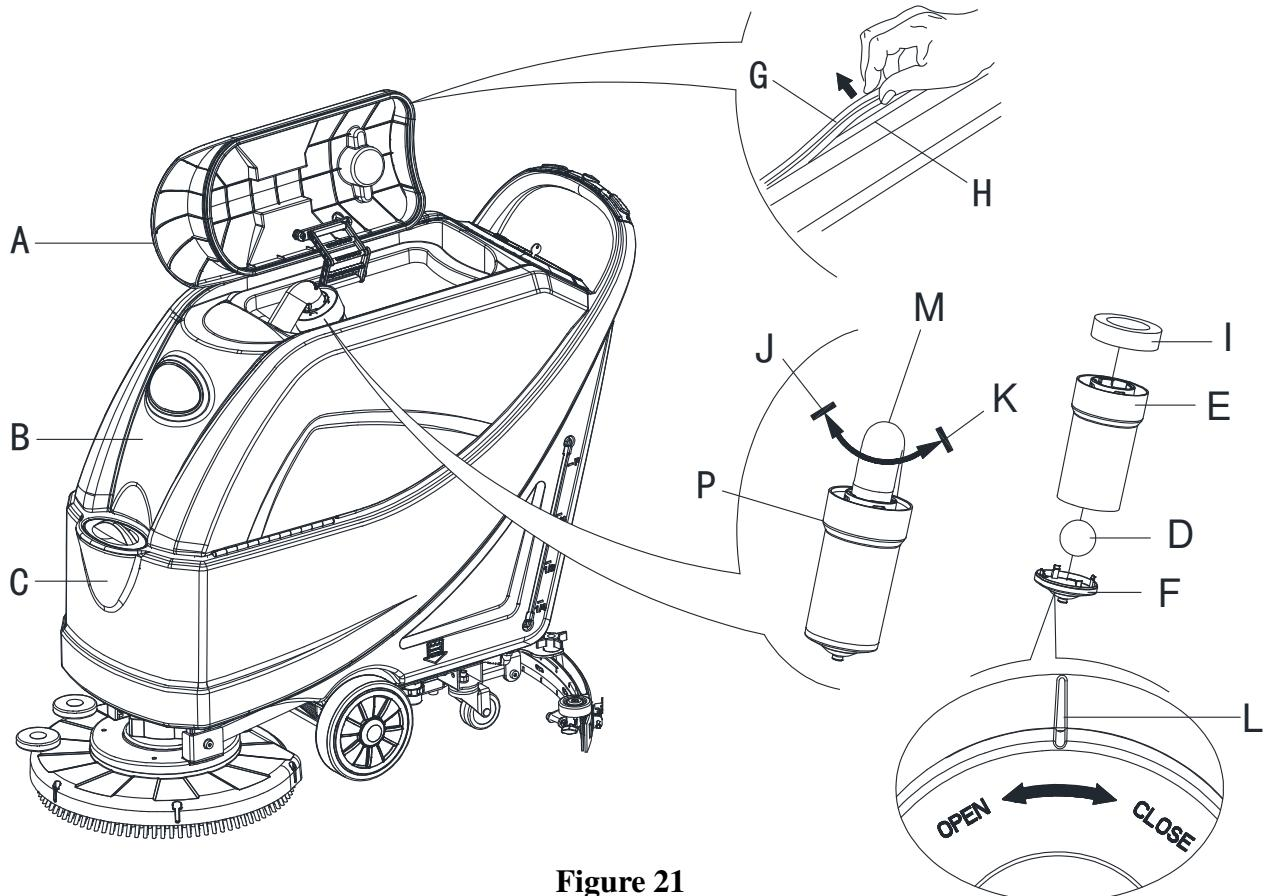

Figure 21
2. Ensure that the machine is off and the ignition key (54) has been removed.
3. Turn the recovery tank lid (A, Figure21) 90 degree position where it can be took off from the tank, and then take down the float ball filter (P) from the tank.
5. If necessary, follow the symbols “OPEN” and “CLOSE” as shown in (Figure21) to open the bottom cover (F) of float ball filter and then clean the float ball (D), filter support frame (E) and filter sponge (I). After cleaning, fix the float ball (D) into the filter support frame (E) and then align the mark groove (L) of the bottom cap (F) of the float ball filter with the mark groove (L) of the float filter support frame (E).Screw the bottom cap of the float ball filter tight, and fix the filter sponge (I) onto the float filter support frame (E). Finally, connect it to the sewage suction hose (M).
7. Check whether the contact surface of sealing strip (G) is integrity and sealing is sufficient. If necessary, take the sealing strip of the tank out of the groove (H) and replace it. Assembly the new sealing strip as shown in (Figure21), the joint should be back in the middle area.
8. Close the recovery tank lid (A).